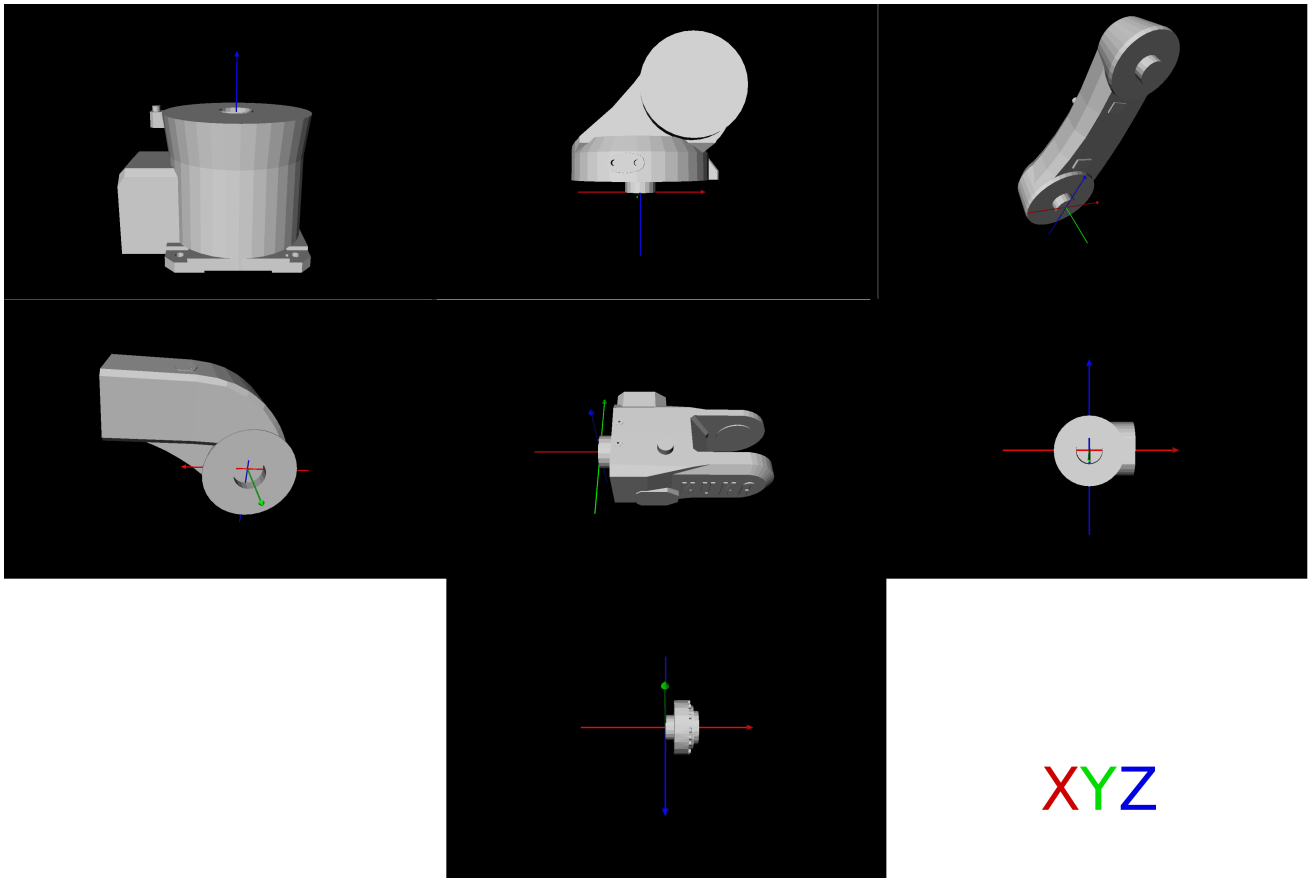

Figure 1: Link models
8. The local coordinate system in the exported .iv file matches the global coordinate system in blender. Thus, you need to move the global coordinate system to that point on a link, about which the link rotates, when connected to the previous link. See figure 1 to see where I had to position the global coordinate system for each link of my robot. Once you have shifted the global coordinate system to the right place, save the .blend model and export it to .iv format again.